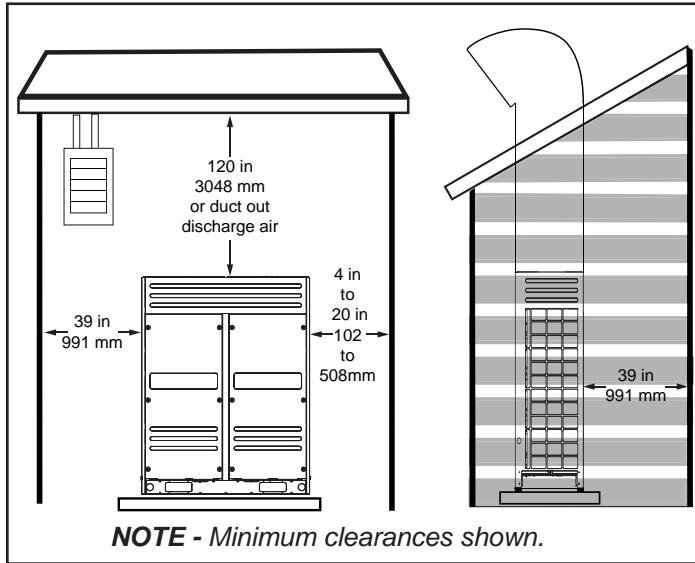

Figure 8. Mechanical Enclosure
- Install the outdoor unit in a mechanical enclosure. See figure 8.
- A VRF system consisting of more than two outdoor units, must be placed in order from the largest to the smallest capacity. See figure 8.